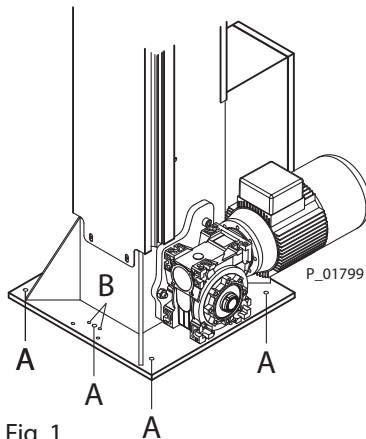

Fig. 1
4. Place the reciprocator on the guide slide and fasten it to the sliding table with the provided screws M8 (A) (fig.1).